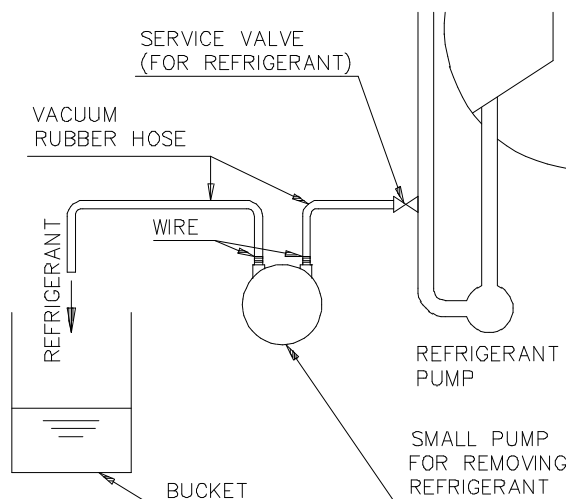

Fig. 7-18. Refrigerant Removing Device
- (1) Perform air purging from shell.
- (2) Make the circuit for removing refrigerant as shown in Fig. 7-18.
- (3) Start small pump for removing refrigerant.
- (4) Slightly open the service valve furnished on refrigerant pipe by using adjustable wrench.
- (5) Fully open the service valve when refrigerant is discharged into the bucket.
- (6) Fully close the service valve when required quantity of the refrigerant is removed.
- (7) Stop the small pump for removing refrigerant.
- (8) Continue the air purging for 30 minutes after completion of this work.
- (9) Disassemble the circuit.
- (10) Confirm that cap of the service valve is closed completely.
- (11) Wash the tools with water.